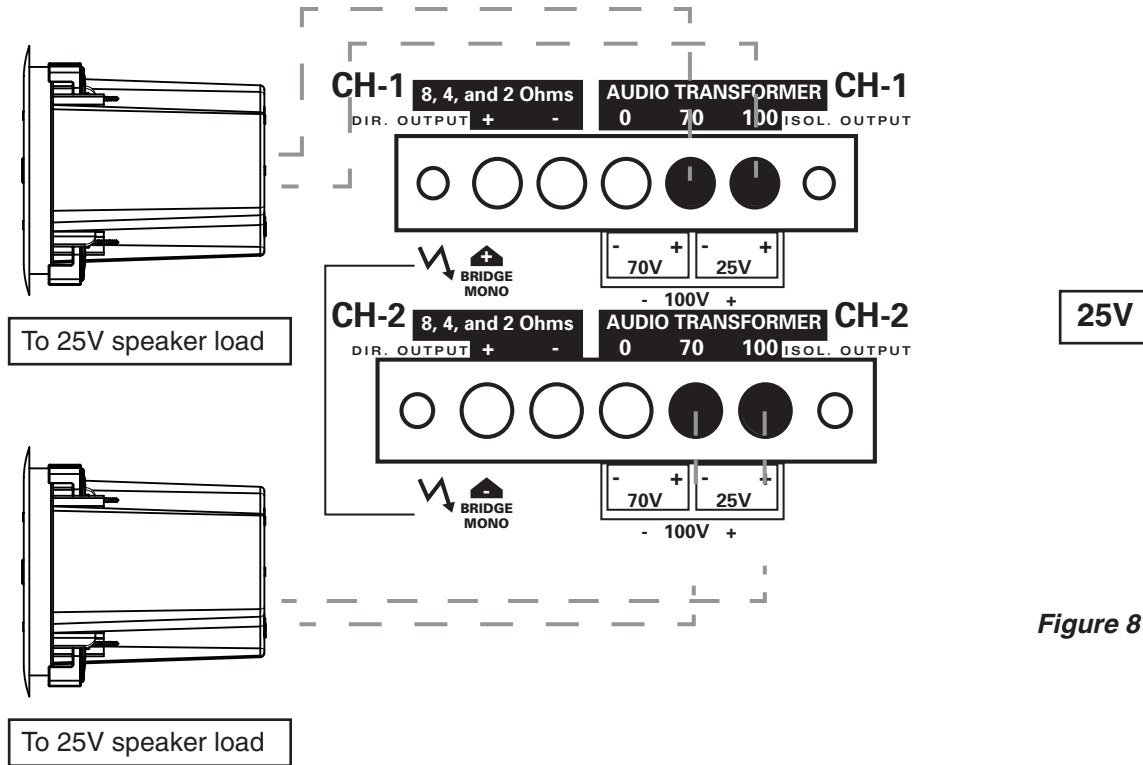

Figure 8
- **25V** - Connect the positive speaker lead to the terminal labeled "100" and the negative speaker lead to the terminal labeled "70" (Figure 8).